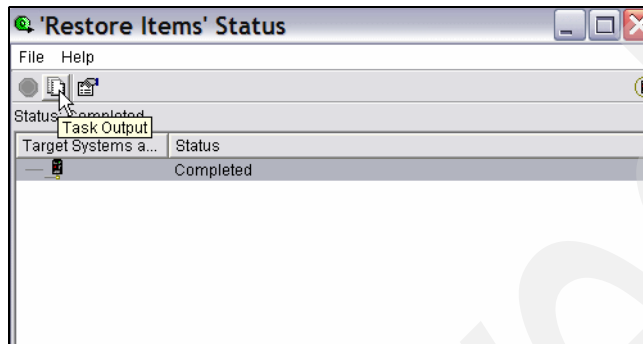

Figure 5-98 Restore Domino data with BRMS, restore - Task Output
1. Open the joblog by clicking the **Task Output** icon, as shown in Figure 5-98.